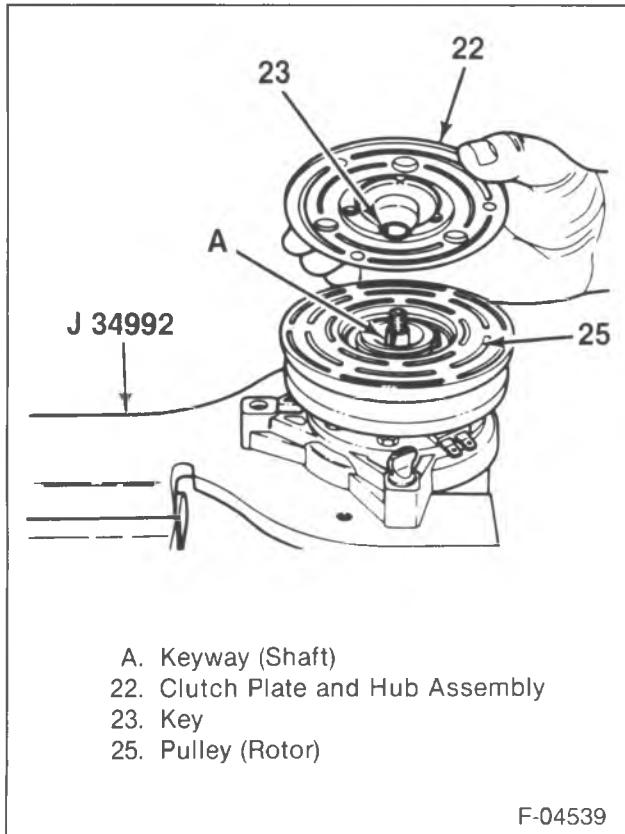

Figure 7—Removing the Clutch Plate and Hub and Shaft Key
1. Shaft key (21).
- Allow the shaft key (21) to extend 3.2 mm ($\frac{1}{8}$ -inch) out of the bottom of the hub keyway (figure 7).
- The shaft key (21) is curved slightly to give an interference fit in the groove.